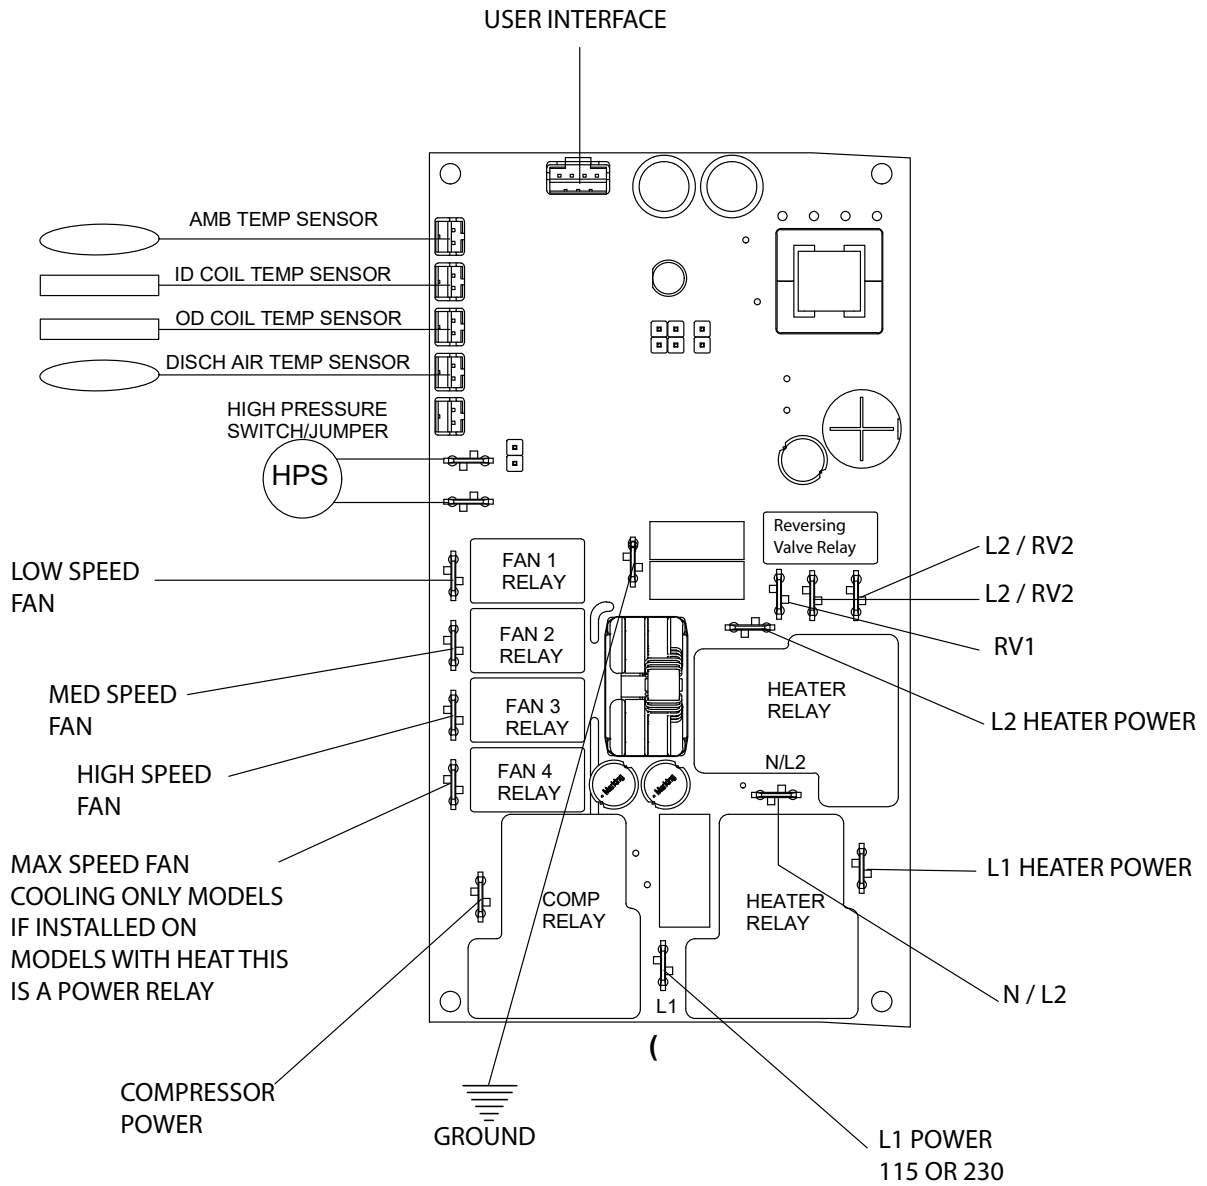

Figure 712 (Electronic Control Board Identification)
1. Make sure the unit has the proper voltage and that it is turned on. Check power at Terminals L1 and L2. (refer to Electronic Control Board Identification, Figure 712)
user interface port of the electronic control board. There should be 24VDC. (refer to Electronic Control Board Identification, Fig 712)
2. Locate thermistor plug and disconnect from Control Board. (refer to Control Board Identification, Fig 712)